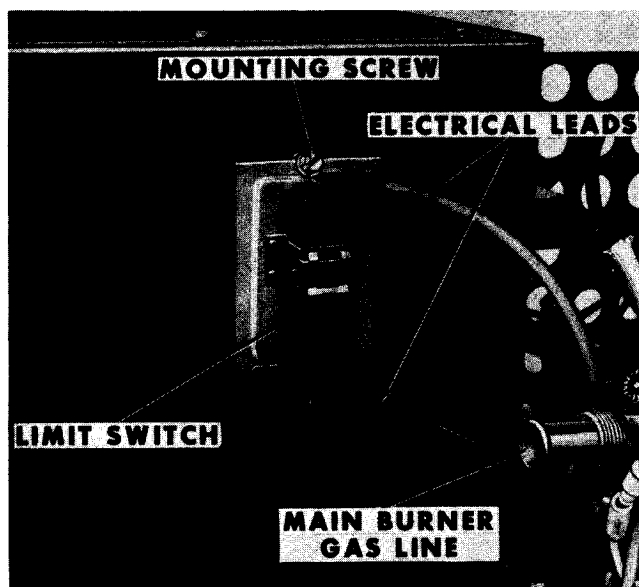

Figure 12 – Limit Switch Installed
2. Disconnect electrical leads from limit switch (Figure 12).
1. Carefully install limit switch into opening on front of combustion chamber assembly. Retain switch in position with mounting screw (Figure 12).